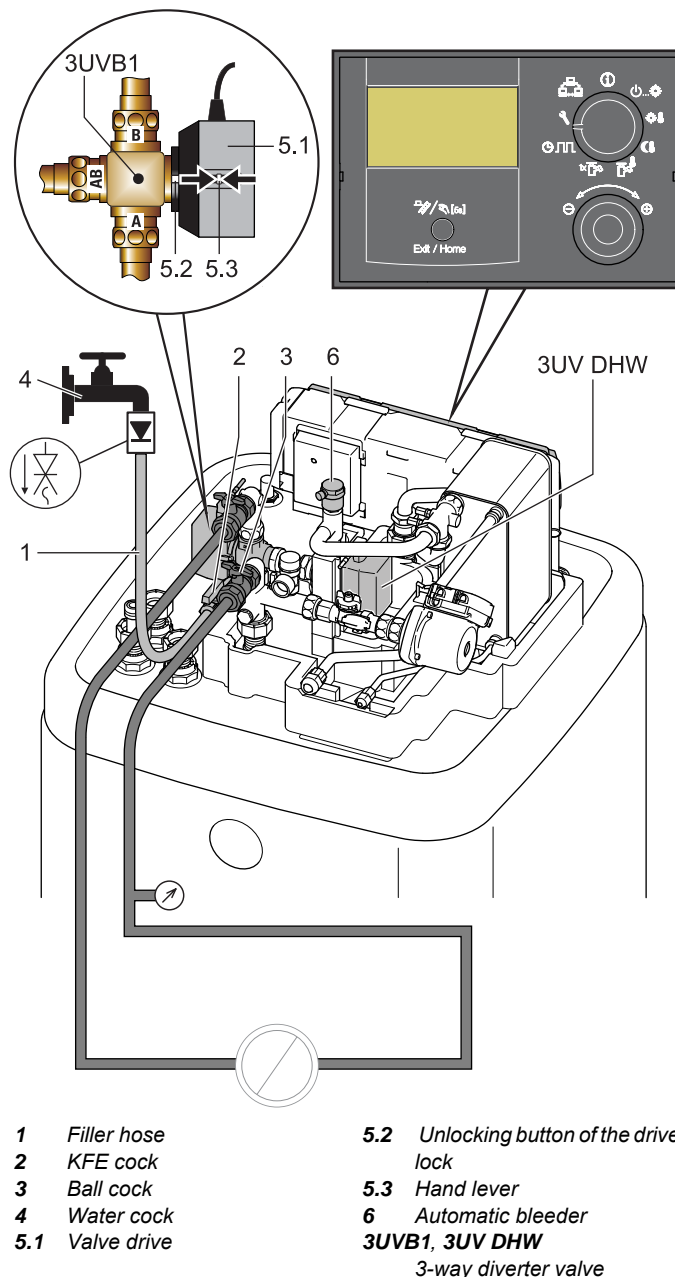

Fig. 6-3 Filling the heating circuit
**Remove the valve drive** of the 3-way diverter valve **3UVB1 + 3UV DHW** (see fig. 6-3). To do so, press the unlock button on the valve drive (see fig. 6-3, item 5.2) and turn the valve drive a 1/8-turn anti-clockwise (bayonet socket).
2. Connect the filling hose (fig. 6-3, item 1) with backflush prevention (1/2") and an external pressure gauge (on-site) to the KFE cock (fig. 6-3, item 2) and secure from slipping using a hose clamp.
3. Open the water cock (fig. 6-3, item 4) in the supply line.
4. Open KFE cock (fig. 6-3, item. 2) and watch the pressure gauge.
6. Close KFE cock (fig. 6-3, item 2).
9. During the hot water heating mode, continuously check the water pressure at the external pressure gauge. Where necessary, refill with water via the KFE cock (fig. 6-3, item 2).
12. Inspect the water pressure at the external pressure gauge again. Where necessary, refill with water via the KFE cock (fig. 6-3, item 2).
13. Close the water cock (fig. 6-3, item 4) in the supply line.
14. Disconnect the filler hose (fig. 6-3, item 1) with flow-back preventer from the KFE cock (fig. 6-3, item. 2).